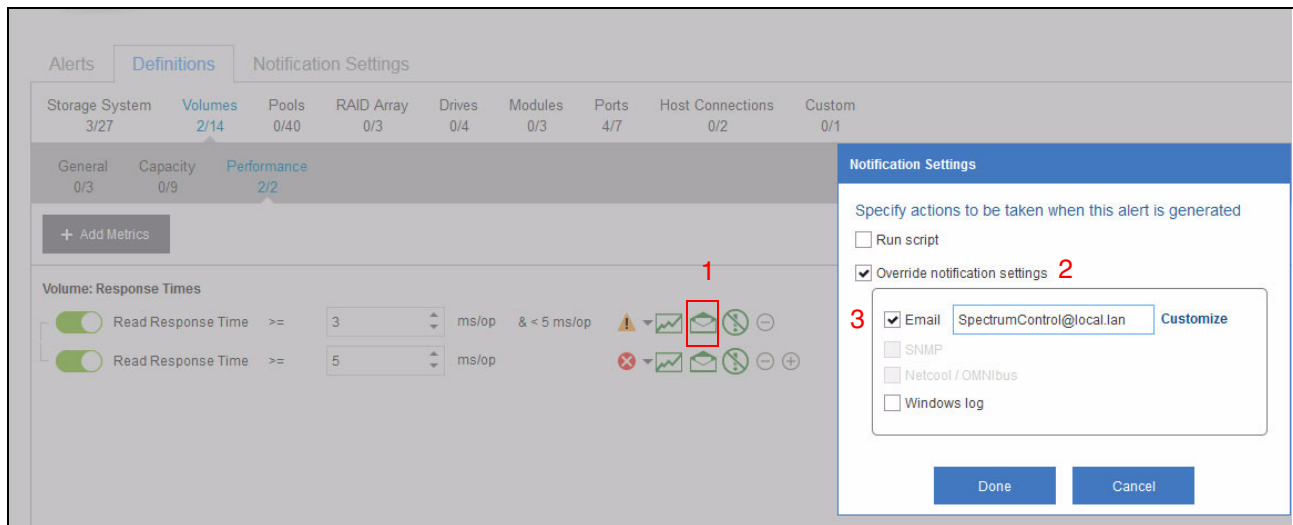

Figure 3-21 Override notification settings
The recipient for alerts can be overridden for each individual alert definition using the email notification icon (1), selecting **Override notification settings** (2), and specifying the recipient for this specific alert definition (3), as shown in Figure 3-21.